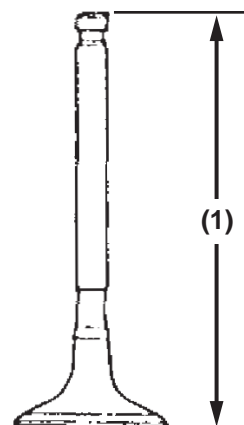

Figure 5-30
7. Check the overall length of the intake and exhaust valves (**Figure 5-30**).